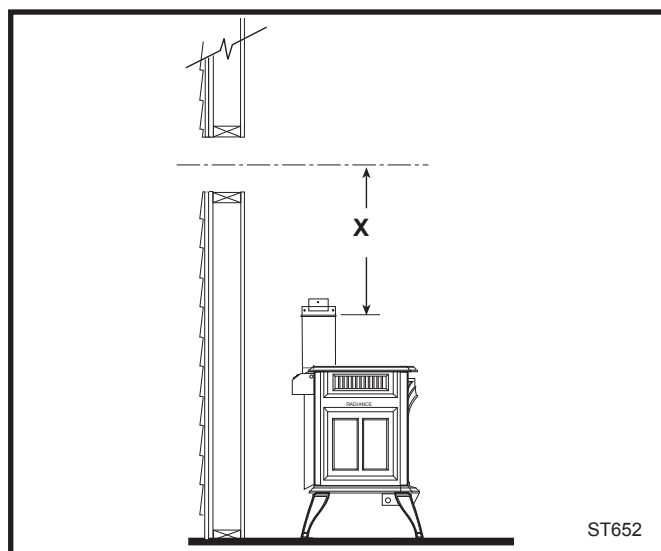

Fig. 26 Determine the vertical pipe length.
4. **For MHSC Vent Pipe only:** If necessary, measure to determine the vertical length (X) of pipe required from the adapter pipe to the wall cutout centerline, including a 2" overlap at the joint. (Fig. 26) use a hacksaw or tin snips to trim the pipe as needed.